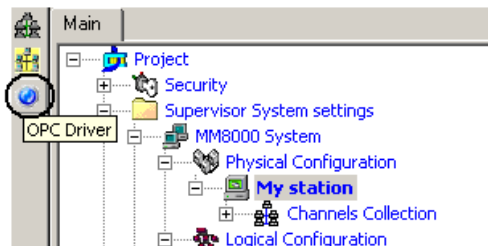

Fig 1 Adding the OPC driver
3. Click on the OPC driver icon  in the icon toolbar (Fig 1)